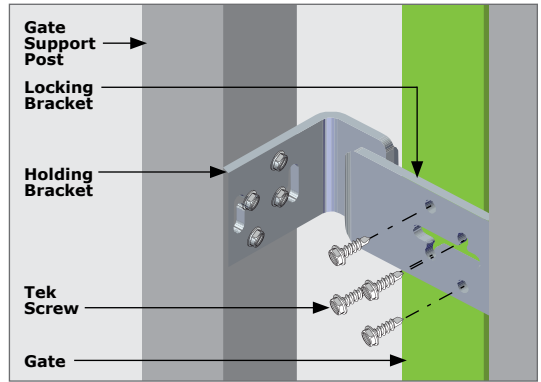

FIGURE 14. SUPPORT POST - FASTENERS
2. Using four M6 high-quality Tek screws to mount the **Locking Bracket** onto the Gate. Four 7mm Position-securing Holes have been provided. See Figure 14.